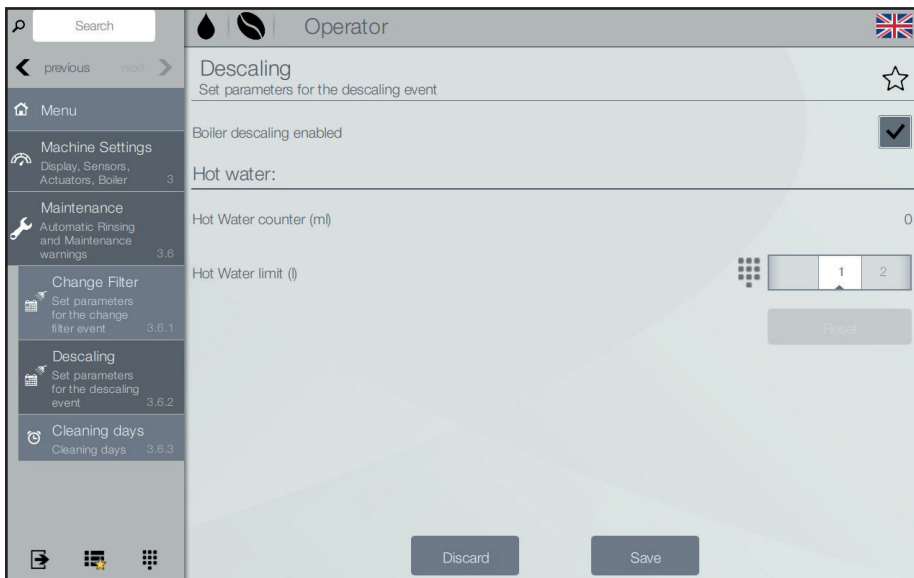

Fig. 6.13- Descaling
- Tap on menu items 3 > 3.6 > 3.6.2
- Enable the Descaling function, if you prefer a descaling of the boiler and other equipment in regular intervals (fig. 6.13).